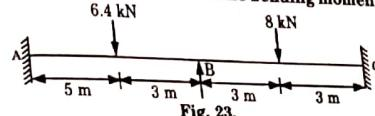

Fig. 23.
- b. Analyse the continuous beam shown in Fig. 23, by stiffness matrix method. Also sketch the bending moment diagram.